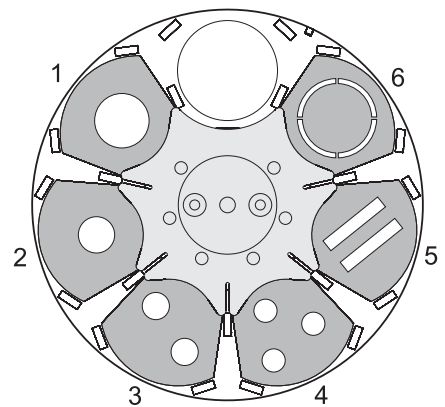

Figure 7
9. Insert gobos with the silicone beads facing the color wheel with reference to Figure 7 and to the illustration on the last page of this guide. Store the original color filters safely for possible future re-use.
10. We recommend that you install beam effect gobos in the color/gobo wheel in the positions **seen from the front lens side**\* shown in Figure 7 in all the fixtures you modify, so that all MAC 250 Beam fixtures will have identical behavior under DMX control. A larger copy of this illustration is included on page 6 of this guide.
*\*The previous revision of this installation note showed the color/gobo wheel seen from the lamp side. Figure 7 shows the wheel seen from the front lens side instead to give a true picture of the wheel in reality, because the front lens side is where the color filters/gobos are actually installed. Note that when viewed from the front lens side, the gobo slots are numbered counterclockwise.*